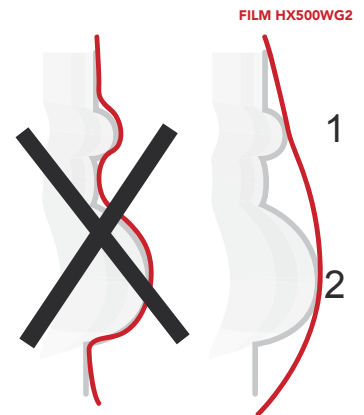

Figure 06
- › Apply the stretched vinyl over the substrate so as to have it stick only to the peaks of the undulation. (FIG. 06) ① and ②